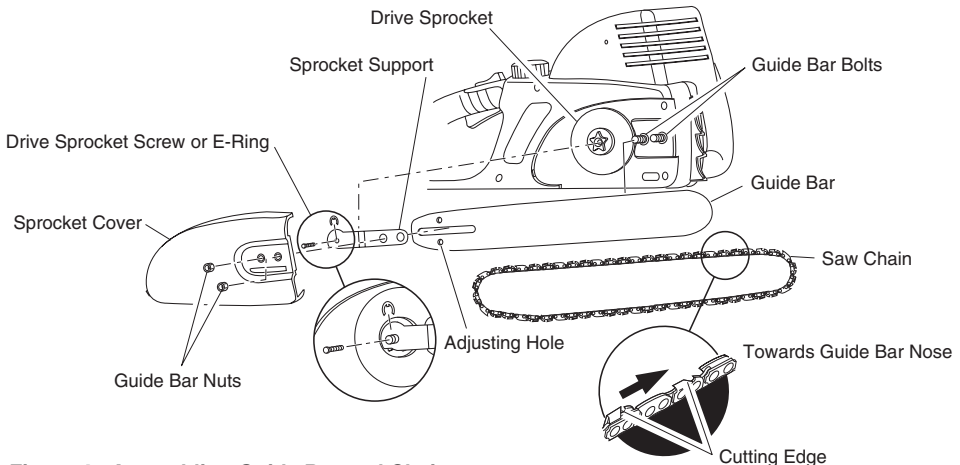
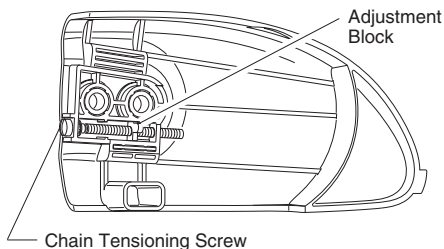

Figure 4 - Assembling Guide Bar and Chain
Figure 5 - Turn Chain Tensioning Screw on Model 107624-01, -02
3. Loosen and remove drive sprocket screw or remove E-ring from shaft (see Figure 4). Remove sprocket support.
6. Place chain around drive sprocket, along top groove of guide bar, and around guide bar nose. **Note:** Make sure cutting edges of chain are facing in right direction. Position chain so cutting edges on top of guide bar face guide bar nose (see Figure 4, and indicator on side cover of saw).
9. Turning chain tensioning knob (Model 107625-01, -02, 111174-01) or chain tensioning screw (Model 107624-01, -02), adjust position of adjustment block until it is aligned and inserted into the round adjusting hole on guide bar (see Figure 4 and Figures 5 and 6, page 8). Turning chain tensioning knob or chain tensioning screw counterclockwise will move adjustment block to rear of guide bar. Turning chain tensioning knob or chain tensioning screw clockwise will move adjustment block to front of guide bar.